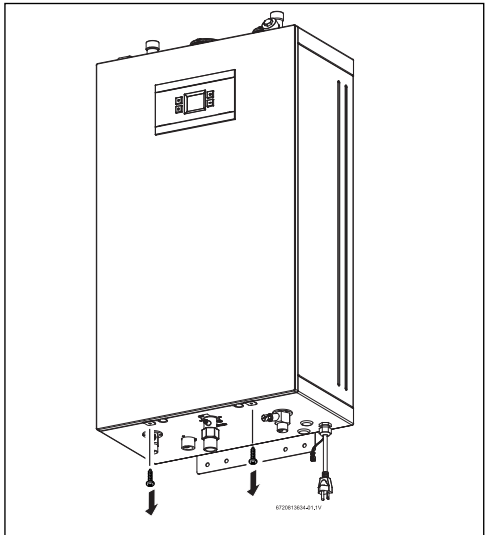

Fig. 3 Loosen two Phillips head screws
- Loosen two Phillips head screws located on the bottom of the unit (fig. 3).